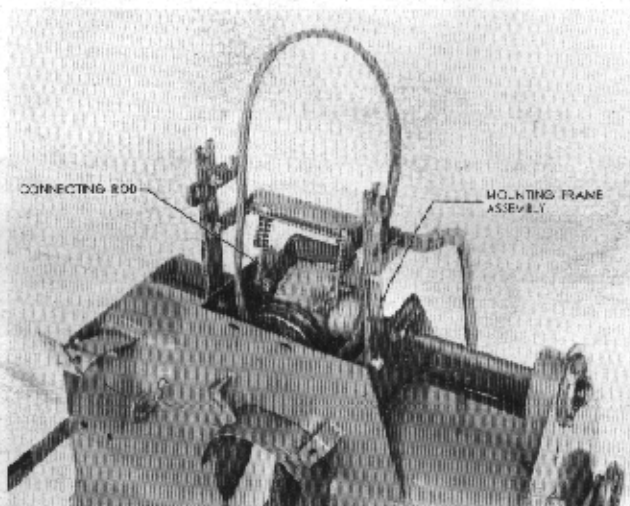

FIGURE 1
1. Mount the frame arm assembly to the snow thrower body using four  $\frac{3}{8}$ -16 x 1" bolts and nuts (figure 1).